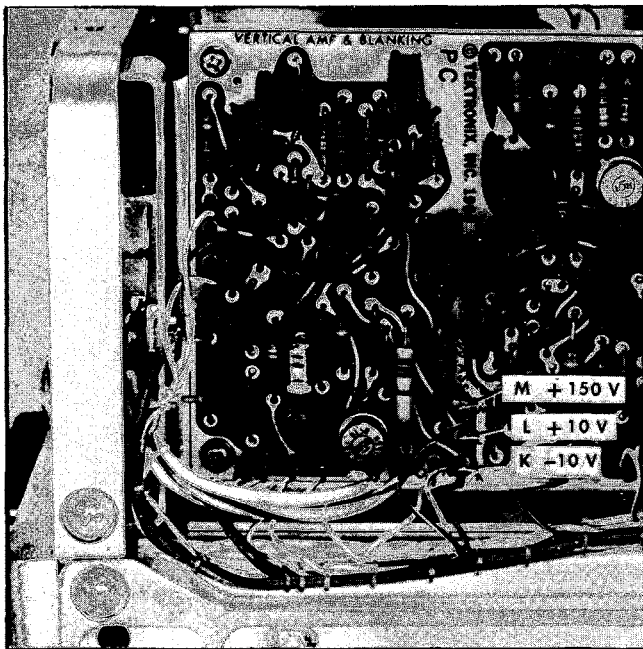

Fig. 6-5. Location of the low voltage check points.
b. Turn the POWER switch to ON position, then connect a calibrated voltmeter between pin K on the Vertical Amplifier and Blanking circuit board, and chassis ground (see Fig. 6-5).
b. Connect the voltmeter between pin L of the Vertical Amplifier and Blanking circuit board and chassis ground (see Fig. 6-5). Check the +10 volt supply. Must read between +9.7 and +10.3 volts (10 V \pm 3%).
b. Connect the VOM to the voltage check points (Fig. 6-5), and check the voltage regulation of each regulated supply as the input line voltage is varied through the input line voltage range as shown in Table 6-1.